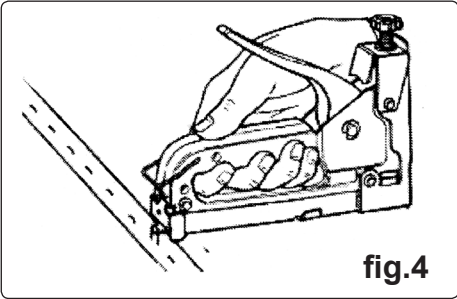

fig.4
4.5 Staple removal. At the rear end of the sole plate is a semicircular protrusion that can be used to lever out driven staples. See fig.4.